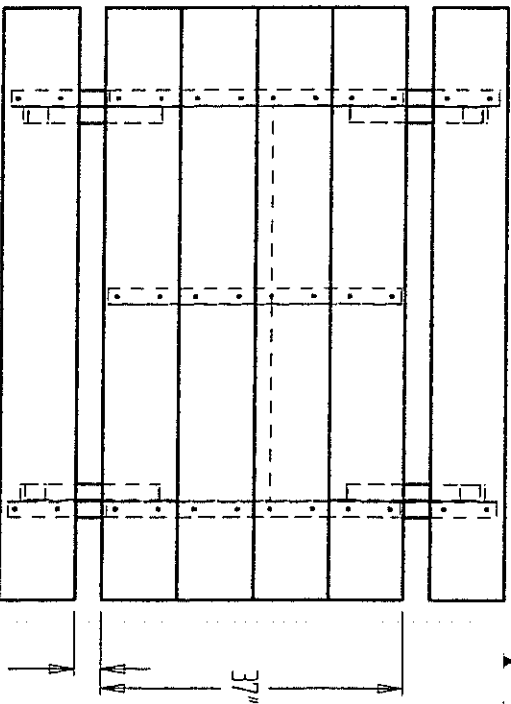

Fig. 1
8. Drill 5/16" holes for the carriage bolts as shown in fig. 1 and fig. 2.